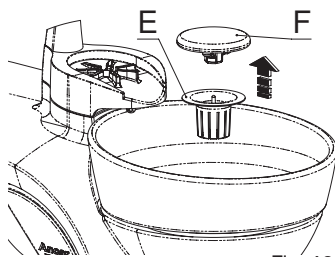

Fig. 10
To avoid splashes and the passing of solids, spittoon is fitted with filter (E) and cover piece (F) located in the drain of the spittoon (fig. 10).